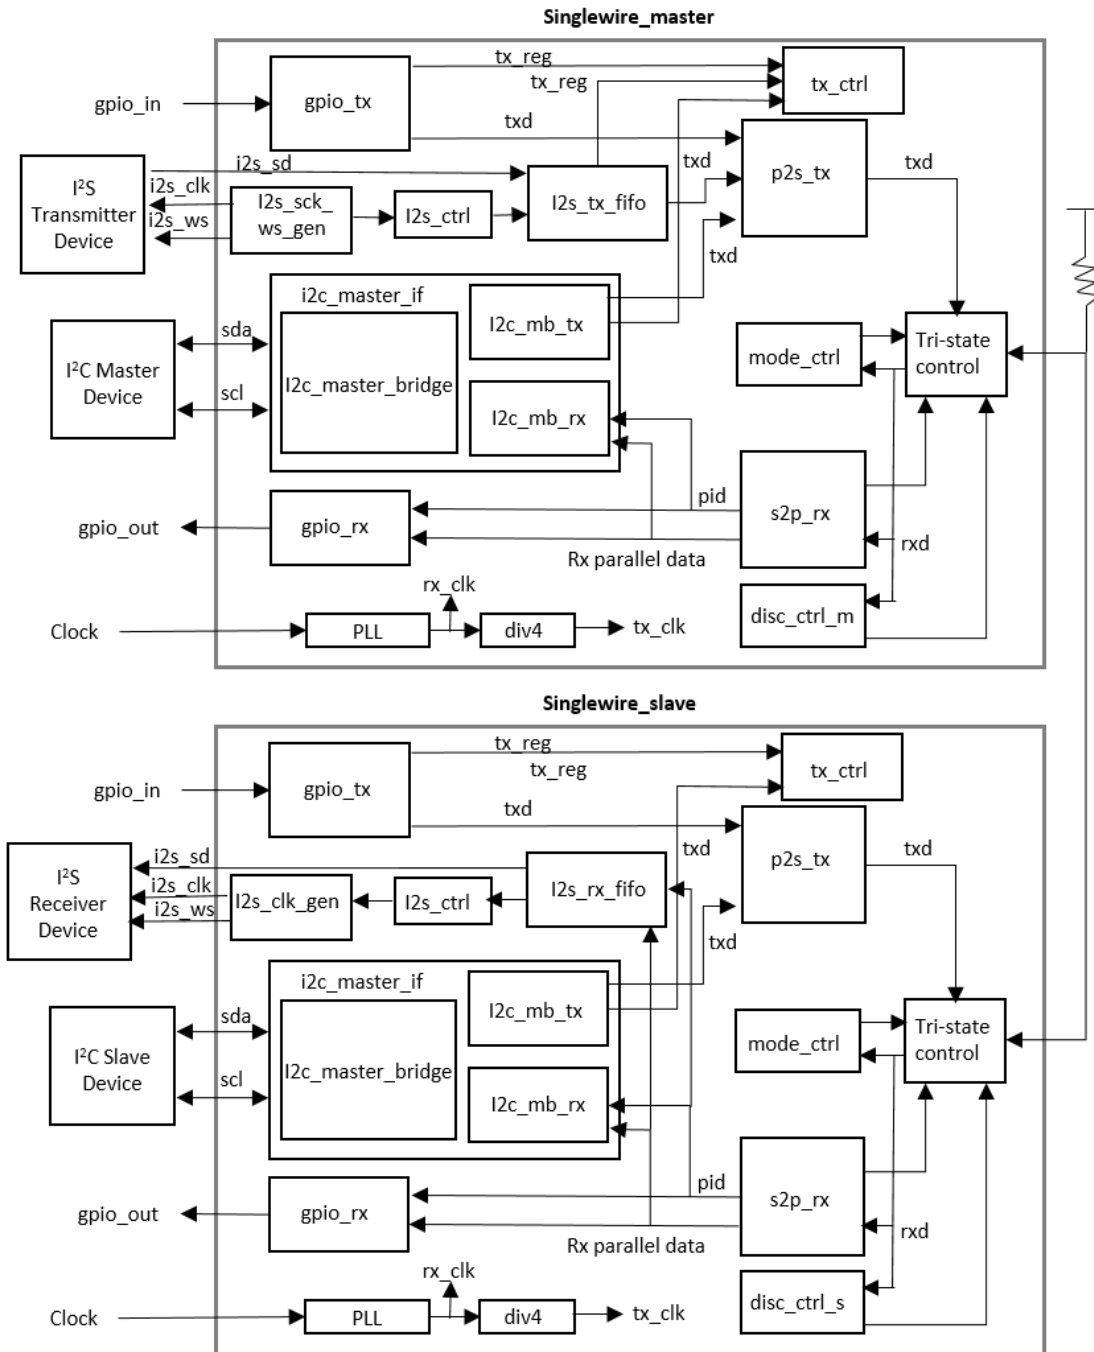

Figure 1.1. Single-wire Block Diagram Example
| Figure 1.1. Single-wire Block Diagram Example..... | 6 |
- Retransmit feature is offered when parity error is detected on the Receiver (RX) side. This feature is applicable for I²C and GPIO data
Figure 1.1 shows a block level diagram of Single-wire reference design (RD) in typical configuration with I²C, I²S and GPIO aggregation, which has a Master FPGA and Slave FPGA. There are two essential design differences between the Master FPGA and Slave FPGA:
- Master FPGA always wins in the very first transmitter (TX) request contention after power-up.